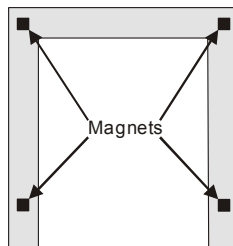

Figure 41
2. The trim is held on by four magnets. These will either be attached to the trim or supplied loose in a separate envelope. Space them as shown in **Figure 41**.